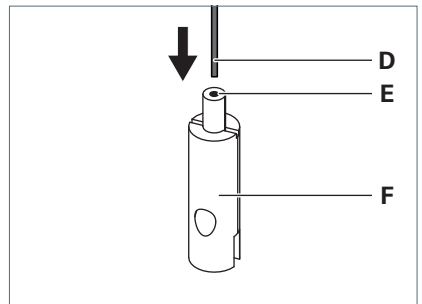

Fig. 21: Mounting the wire rope holder.
- ▶ Guide the wire rope **D** through the guide bushing **E** of the wire rope holder **F**, see Fig. 21.